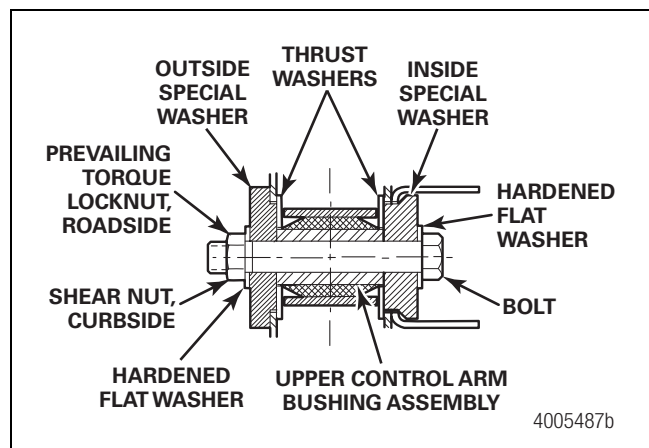

Figure 3
- G. Ensure that the pilots on the special washers go through the holes in the side plates and do not seize. Tighten the nuts to the final specifications. Figure 3.